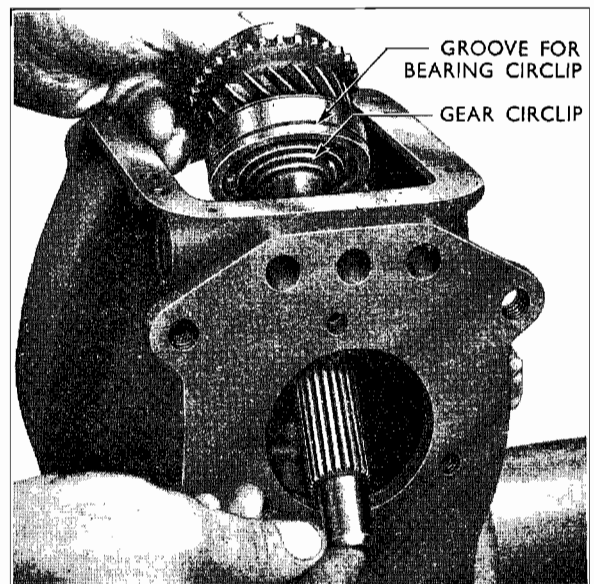

Fig. 10
11. Remove the main drive gear. Detach the large circlip from around the main drive gear bearing and press the gear and bearing into the gearbox, withdrawing it through the top of the box (see Fig. 10).